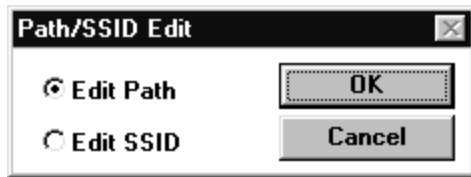
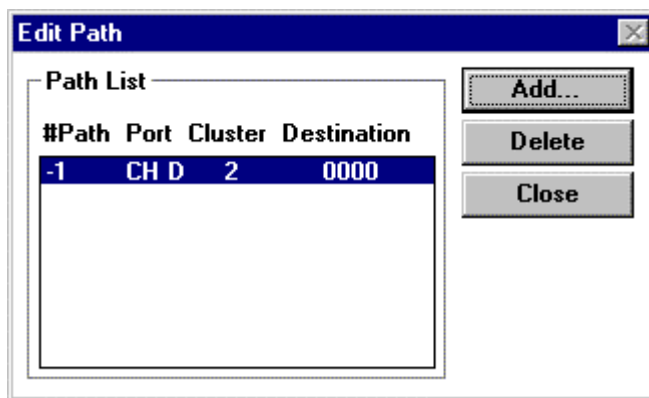
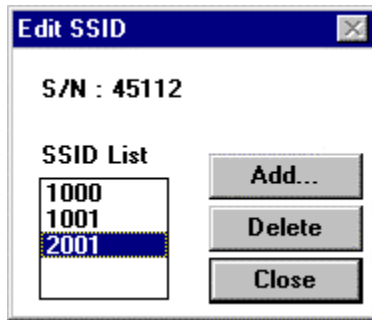
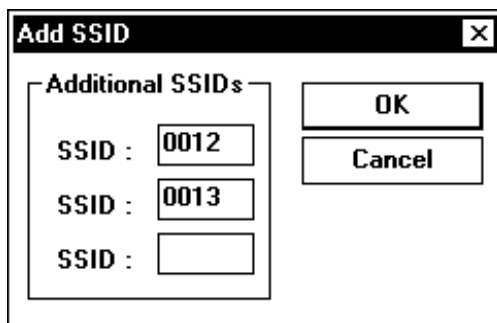

Figure 4.16 Path/SSID Edit Panel
Figure 4.17 Edit Path Panel
Figure 4.18 Edit SSID Panel
Figure 4.19 Add SSID Panel
The Path/SSID Edit panel (see Figure 4.16) provides access to the Edit Path panel and Edit SSID panel. The Edit Path panel (see Figure 4.17) allows you to add and delete logical paths from the MCU to an existing RCU. See section 4.3.5 for information on the Edit SSID panel. The Path/SSID Edit panel is accessed from the HRC Main Control panel.
1. On the HRC Main Control panel, select the appropriate CU image, select the desired RCU in the **RCU List** box, and then select **Edit Path/SSID...** to open the Path/SSID Edit panel (refer to Figure 4.16).
2. On the Path/SSID Edit panel, select **Edit Path** and click **OK** to open the Edit Path panel (refer to Figure 4.17).
The Edit SSID panel (see Figure 4.18) allows you to add and delete SSIDs for an existing RCU and provides access to the Add SSID panel (see Figure 4.19). The Edit SSID panel is accessed from the Path/SSID Edit panel (refer to Figure 4.16).
1. On the HRC Main Control panel, select the appropriate CU image, select the RCU whose SSIDs you want to change, and then select the **Edit Path/SSID...** button to open the Path/SSID Edit panel (refer to Figure 4.16).
2. On the Path/SSID Edit panel, select **Edit SSID**, and then select **OK** to open the Edit SSID panel (refer to Figure 4.18).
- a) On the Edit SSID panel, select the **Add...** button to open the Add SSID panel (refer to Figure 4.19).